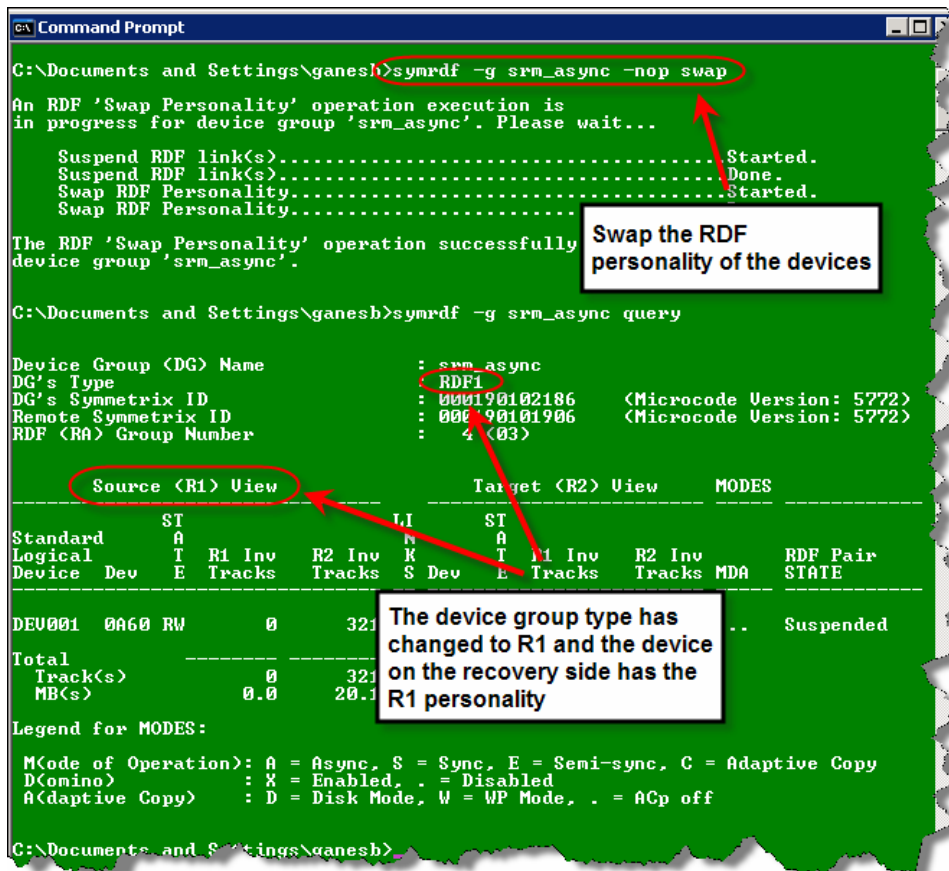

Figure 32. Performing device personality swaps
- The command, “symrdf -g <dg_name> -nop swap”, where <dg_name> is the name of the device group, should be used to swap the personalities of the devices. This is shown in Figure 32 for the devices associated with the srm_async datastore.